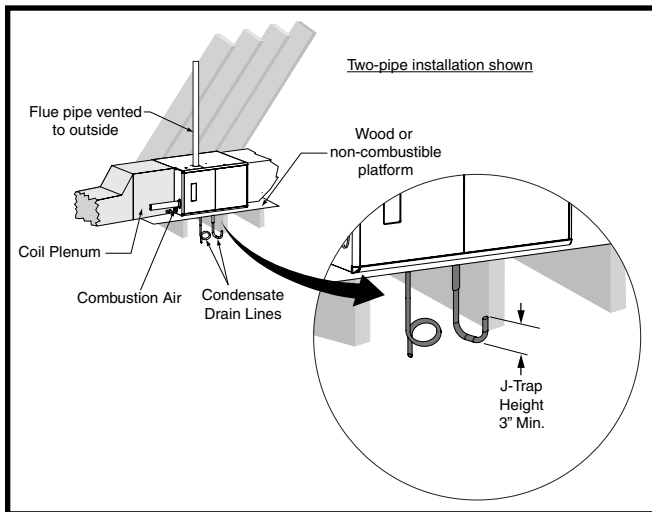
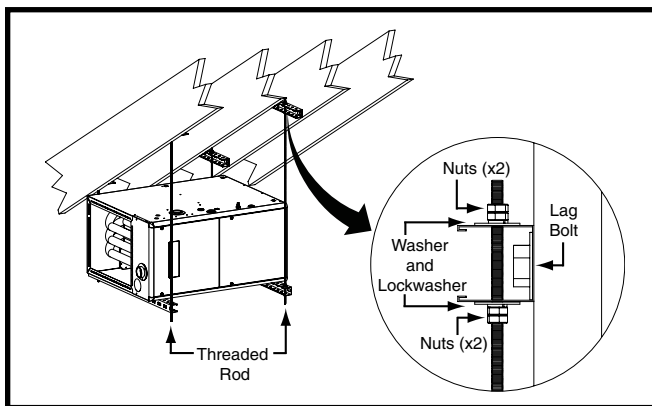

Figure 11. *SC Horizontal installation on a Platform
Figure 12. *SC Horizontally Suspended in Attic
For Installations where there is limited clearance for the J-Trap (such as an attic where it may be installed between ceiling joists), either side of the J-Trap can be shortened to a minimum of 3 Inches. See Figure 11 (page 16).
*SC, *SD & *SD-E series gas furnaces can be installed horizontally (Figure 11) in an attic, basement, crawl space or alcove. It can also be suspended from a ceiling in a basement or utility room in either a right to left airflow or left to right airflow as shown in Figure 12 \(page 16\).
If installing the furnace with an evaporator coil (in an attic), it is required that a drip pan be placed under the furnace. If the installation is on a combustible platform as shown in Figure 11, it is recommended that the drip pan extend
If suspending the furnace from the ceiling, assemble a support frame (Figure 12) using slotted iron channel and full threaded rod. Fasten the frame together with nuts, washers, and lockwashers. Secure the support frame to the rafters with lag bolts. The furnace can also be suspended using steel straps around each end of the furnace. The straps should be attached to the furnace with sheet metal screws and to the rafters with bolts.